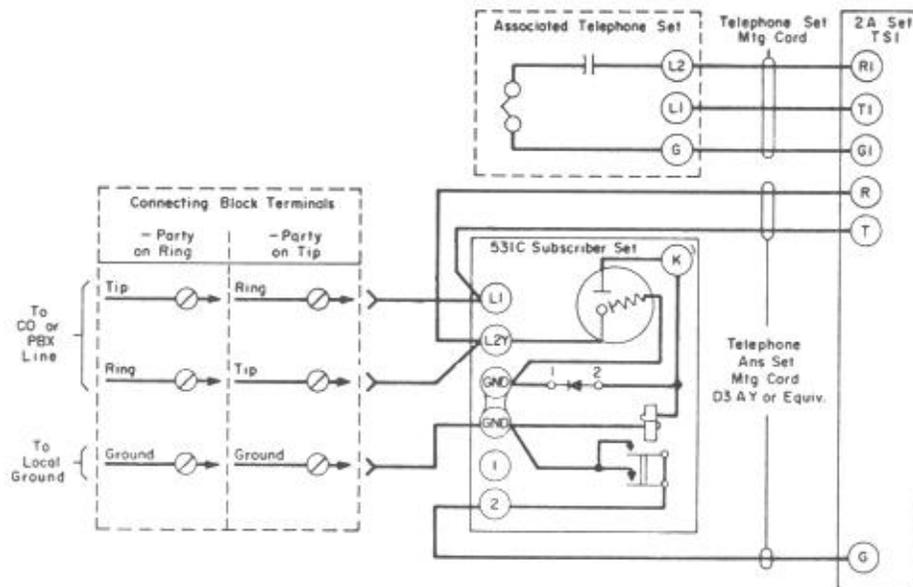

Fig. 17 — Station Connections for 4-party Selective, Flat or Message Rate, Manual or Dial, (-) Party on Tip or Ring
8.05 Wiring changes must be made in the 531C subscriber set as shown in Fig. 17 and 18.